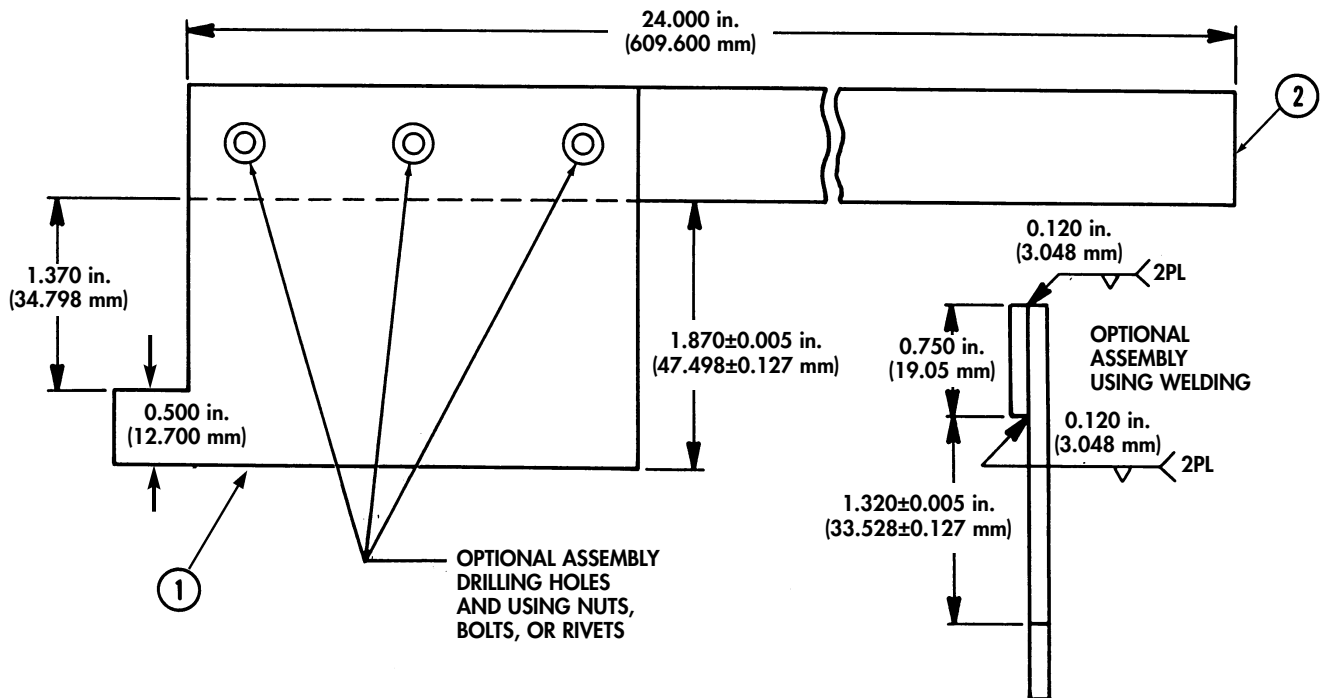

Figure D-107. Pulley Alignment Tool Fabrication (Cont'd).
3. Assemble pulley alignment tool as shown in figure D-107.